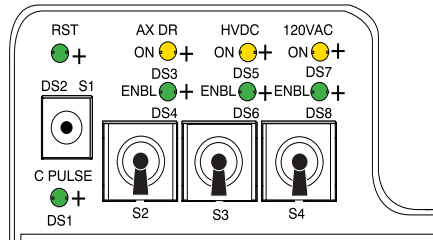
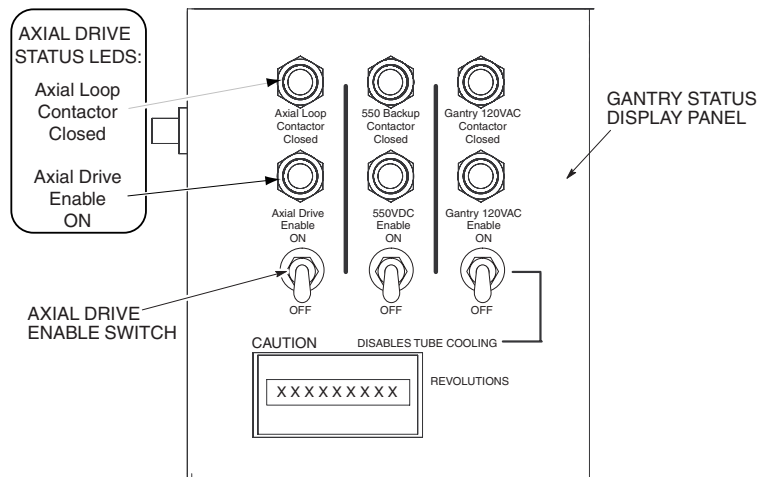

Figure 48 - STC Backplane Service Switches (LS 2.X-4.X, HiSpeed QX/i only)
Figure 49 - Status Display and Service Switches (LS 1.X only)
- ENSURE THAT THE DRIVE STATUS **LED** (Figure 48 OR Figure 49) IS NOT LIT. DO NOT SERVICE THE GANTRY IF THIS **LED** IS ON.